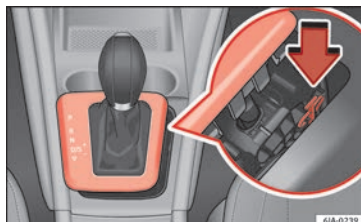

Fig. 44 Manual release of the selector lever.
- Press the yellow plastic part with your finger in the direction indicated by the arrow » » » **Fig. 44.**